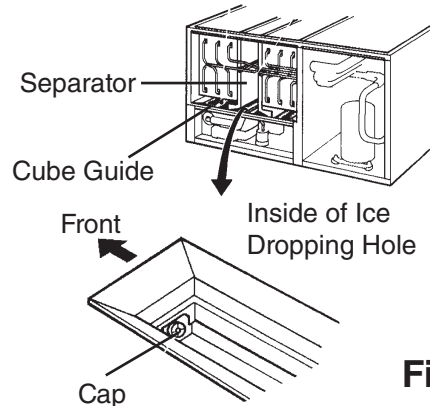

Fig. 6
- 5) Remove the cap located on the front bottom part of the ice dropping hole. Drain the water tank. See Fig. 6.